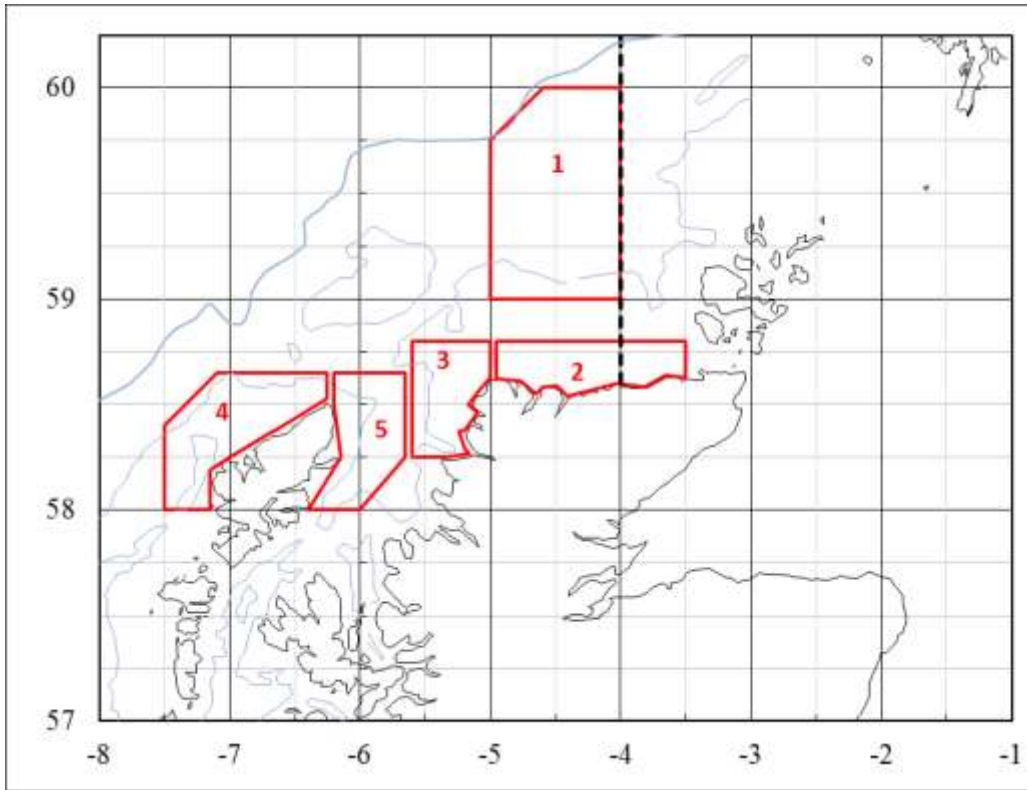

Figure 1. Survey areas 2018.
- *Undertake acoustic surveying and biological sampling to determine the size and structure of spawning herring stock in survey areas 4-5-3-2 (Figure 1).*